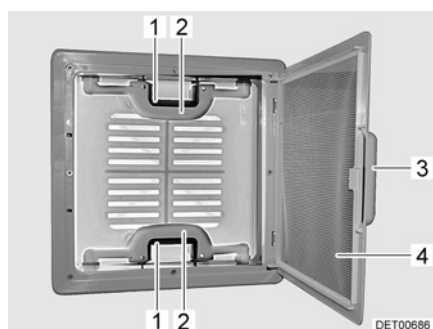

Fig. 33 Skylight with snap latch
- Pull on the handle (Fig. 33,3).
- Fold insect screen (Fig. 33,4) downward.
- Push the snap latch (Fig. 33,1) towards the inside of the skylight. At the same time use the handle (Fig. 33,2) to press the skylight upwards.
- Swing insect screen (Fig. 33,4) upwards until it latches in place.
- Using both handles (Fig. 33,2), pull down the skylight with force until the two snap latches (Fig. 33,1) lock into place.